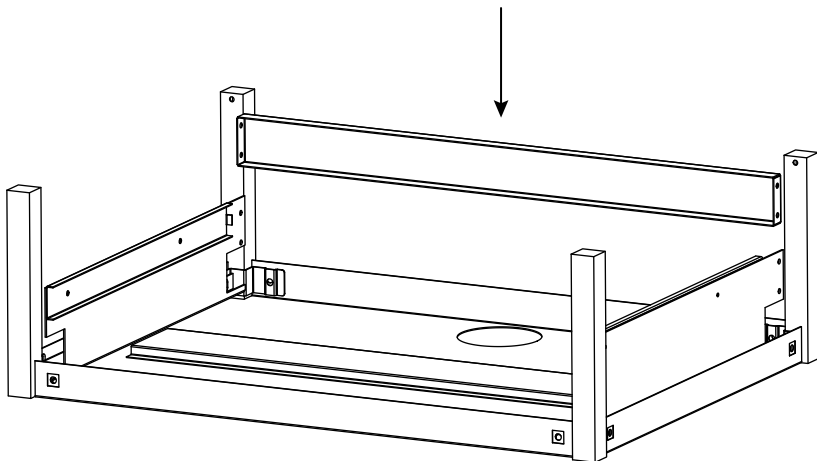
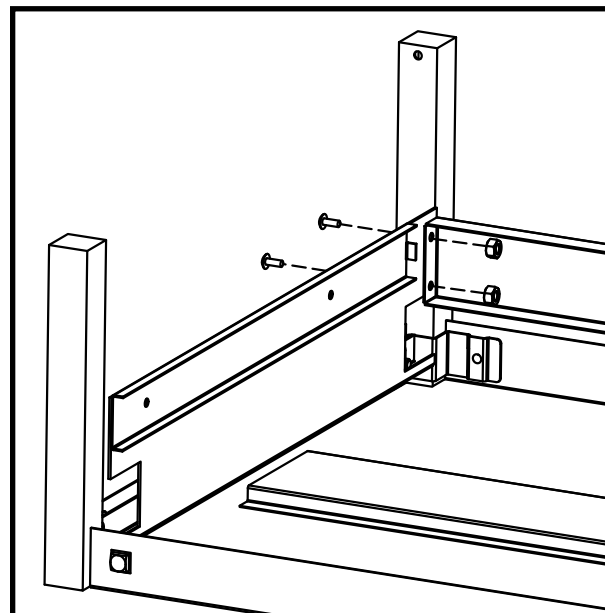

FIGURE 6
FIGURE 7
Slide rear support panel between the slide brackets as shown in **FIGURE 6**. Secure to brackets with screws (GG) and nuts (HH) as shown in **FIGURE 7**.